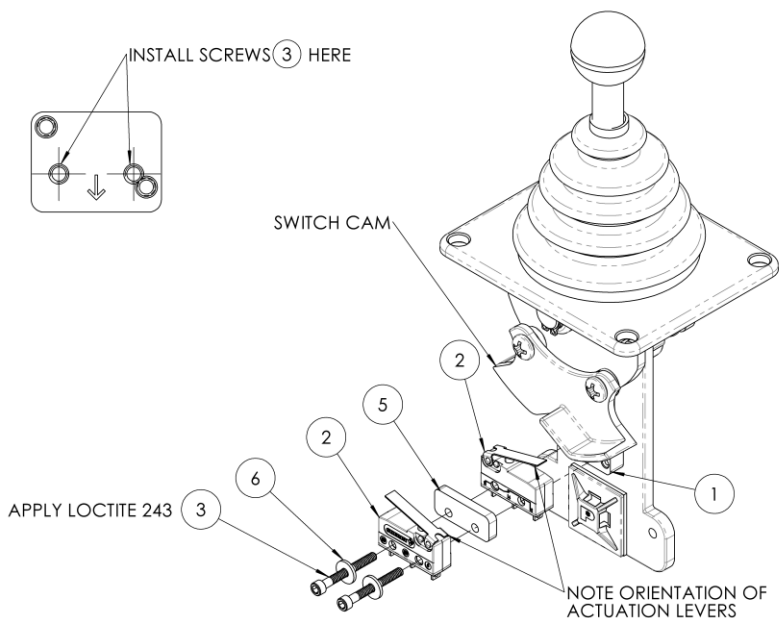
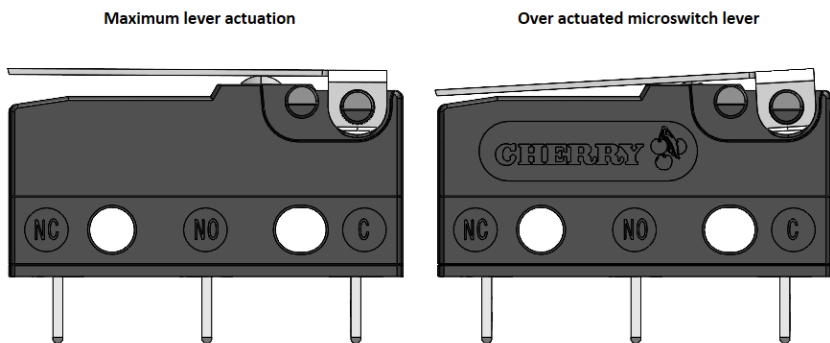

Figure 26: Placement of microswitches in the joystick assembly
Figure 27: Maximum and over actuated microswitch lever.
8. Refer to Figure 26 for the next several steps. Note the orientation of the lower and upper microswitches ② shown in Figure 26.
9. Arrange the microswitches ②, spacer ⑤, washers ⑥, and screws ③ as shown Figure 26 to make a micro switch subassembly.
Ensure the orientation of the actuation levers on the microswitches are as shown in Figure 26.
10. Place Loctite 243(blue) on the exposed threads of the screws ③.
11. Keeping the microswitch sub-assembly together, place it on top of the mounting bracket ①, keeping everything orientated as shown in Figure 26.
12. Tighten the screws ③ to the specification given in Table 18. Do not overtighten the screws or damage to the microswitch will occur.
- The actuation levers of microswitches ② are clear of any obstructions through its range of motion. If the switch cam(see Figure 26) grabs or gets stuck on one of the microswitch actuation levers check the switches are orientated correctly.
- The microswitch ② lever is depressed enough to actuate the switch contacts when the joystick is pushed to its end of travel. This can be done by checking for continuity across the common and signal wire of the switch being actuated. Refer to section 3.2, Table 4 for clarification on which wires to check.
- The microswitch is not over-actuated. When the microswitch lever is horizontal, this is the maximum allowable lever actuation. Beyond this, the lever is considered over actuated, and operation can damage the internal switch components. Refer to Figure 27 for clarification on the over actuated position.
- The microswitch ② lever is raised enough to open the switch contacts when the joystick is in its neutral position. There should be an open circuit between the common and both of the signal wires when the joystick is at neutral.